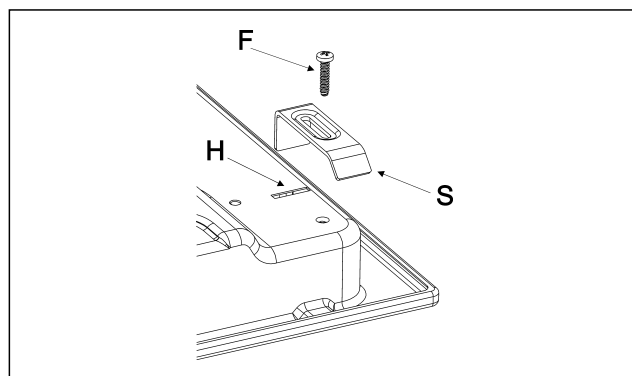

FIG. 8
- Fix the hob with the proper brackets "S" and fit the prominent part into the porthole "H" on the bottom; turn the screw "F" until the bracket "S" stick on the top (see fig. 8).